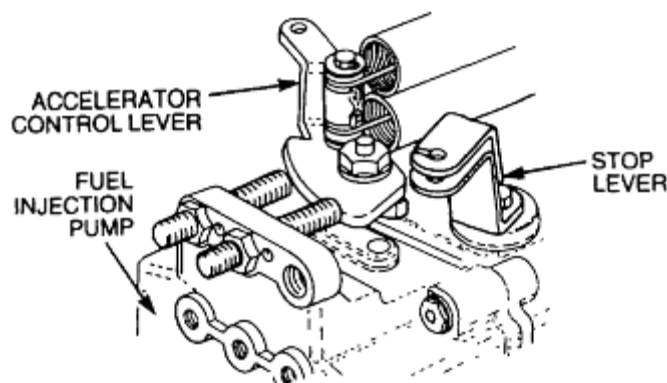

Figure 34 Engine Stop Cable Removal
- b. Disconnect the stop cable end from the injection pump stop lever (Figure 34).